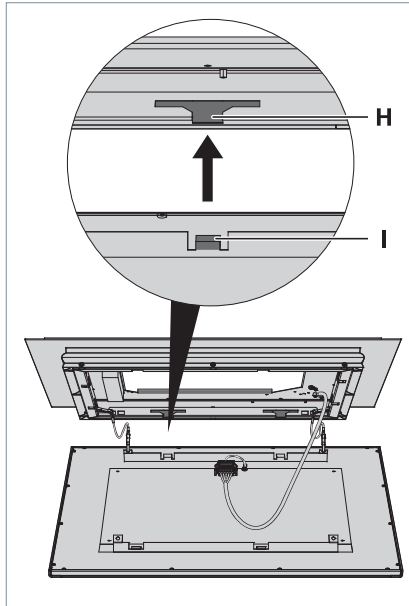

Fig. 9: Positioning the direct light element.
- ▶ Insert the four lugs **I** of the direct light element into the four recesses **H** of the luminaire frame, see Fig. 9.